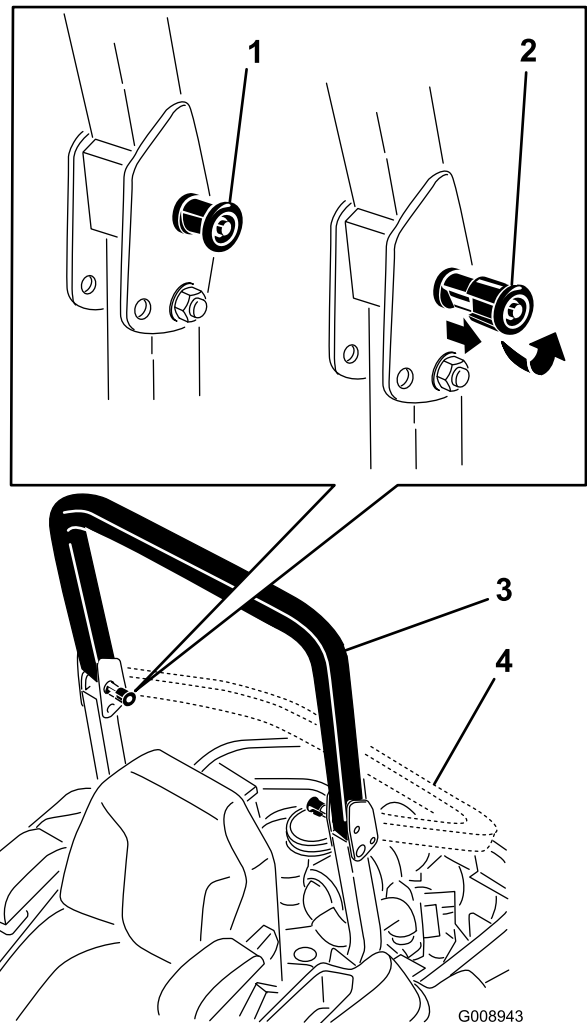

Figure 7
2. Pull both knobs out and rotate them 90 degrees so they are not engaged (Figure 7).
3. Lower the roll bar to the down position (Figure 7).
4. To raise the roll bar, raise the roll bar to the operate position and rotate the knobs so that they move partially into the grooves (Figure 7).
5. Raise the roll bar to the full upright position while pushing on the upper roll bar so that the pins snap into position when the holes align with the pins (Figure 7).